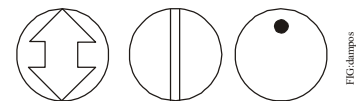

Figure 7: Damper Position
1. Check that the damper blade is visible or its position is permanently marked on the end of the damper shaft, as illustrated in Figure 7.